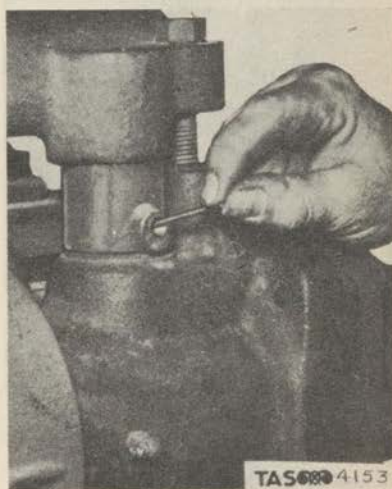

Figure 171. Raising Upper Valve Ball with Nail.
(5) Raise the upper valve balls by inserting a nail or wire through the drain plug openings. Care must be taken not to injure the balls. (Fig. 171)